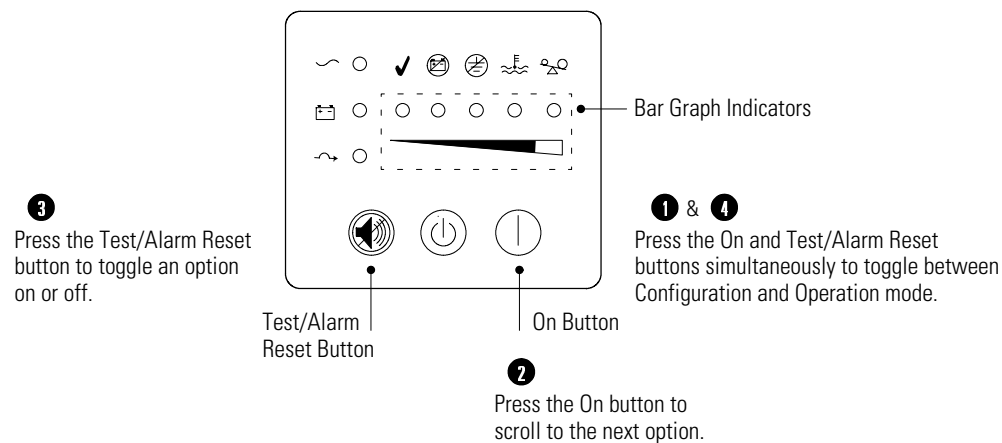

Figure 30. Using the Configuration Mode
When the UPS is in Configuration mode, the bar graph indicators represent the configuration options. The control buttons (On | button and  button) are used to modify the UPS configuration. Figure 30 shows the LEDs and Table 2 explains the corresponding options.
2. Press the On | button to scroll through the options. Each time you press the button, the UPS beeps. The LED for the selected option indicates the current setting; flashing represents disabled options (see Figure 30 and Table 2).